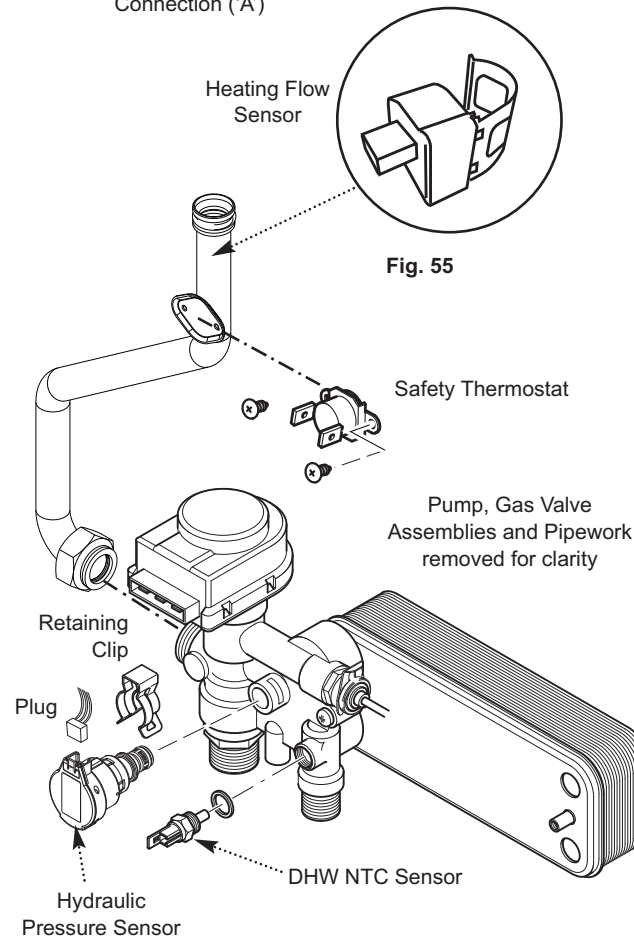

Fig. 55
10.3.8 Heating Flow & Return Sensors (Fig. 55)